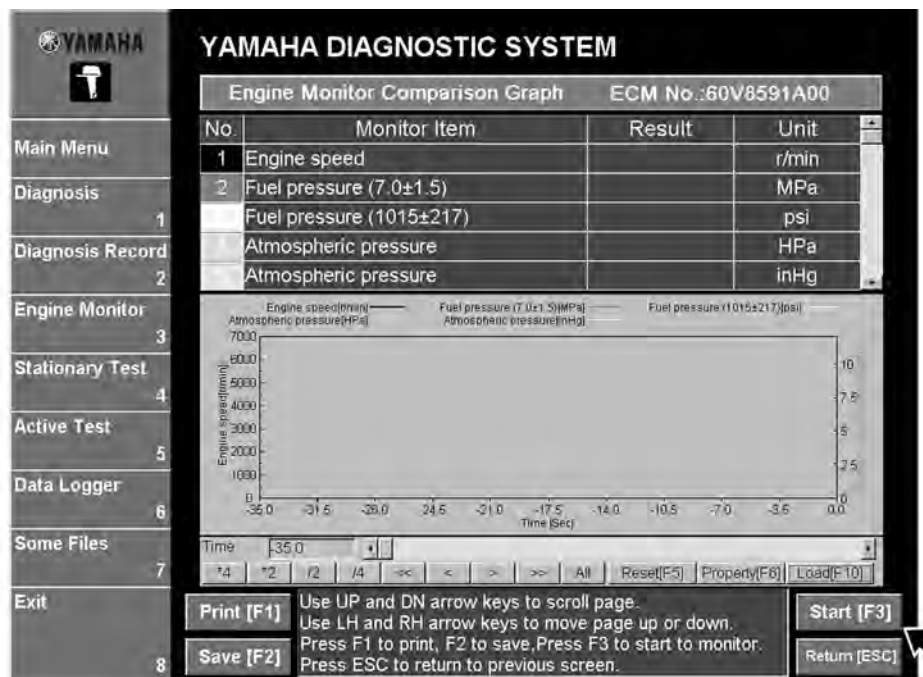

Fig. 56
5. Click the **Start [F3]** button or press the F3 key to begin graphing. Once monitoring has started, the button name changes to **Stop [F3]**. The program automatically stops reading the signal data when the specified time elapses. (Fig. 56)
7. When you are finished with graphic monitoring, click the **Return [Esc]** button (or press the ESC key). (Fig. 56)